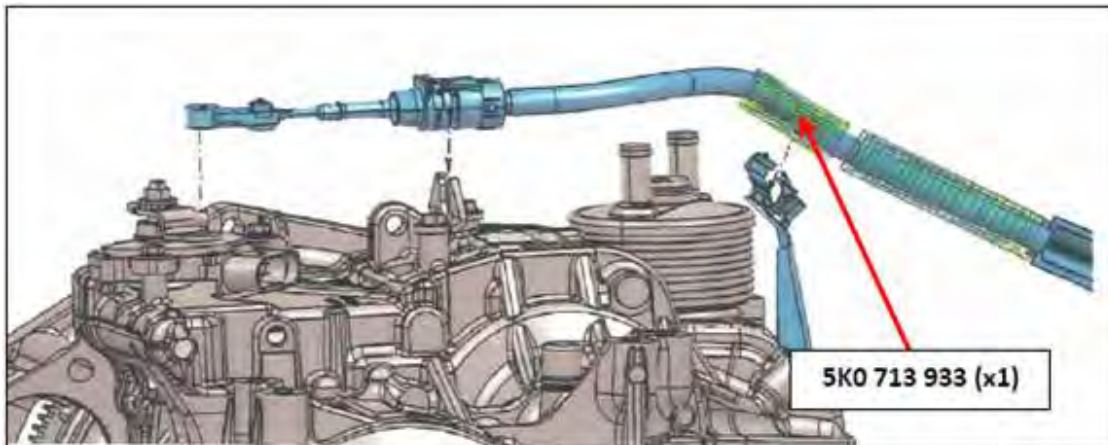

Figure 2
- Install and properly position rubber star hose Part No. 5K0 713 933 (1) onto shifter cable as indicated in figure 2.